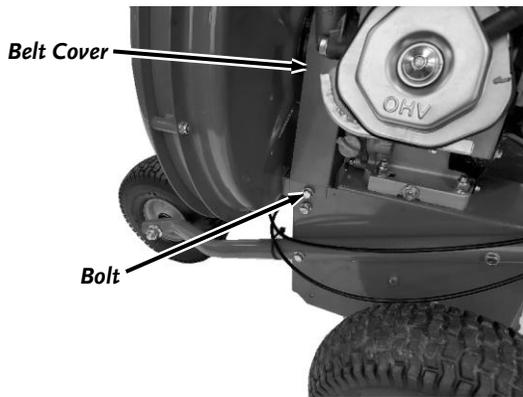

Figure 14
1. Remove the two Bolts that secure the Belt Cover using a 1/2" Wrench and remove the Cover (**Figure 14**).
7. Install the Belt Cover (**Figure 14**).